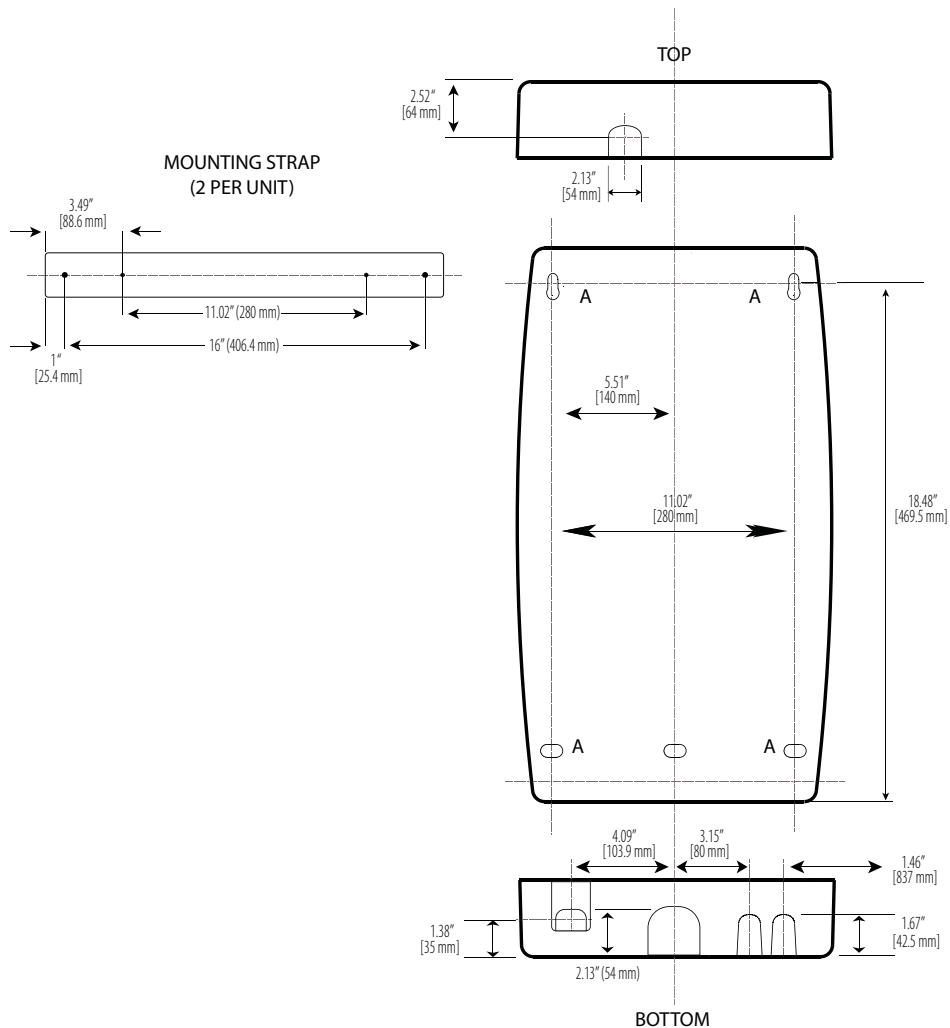

Fig. 3.c
- **Option 1:** Attach directly to a wall using the supplied screws and anchors. Use the two inner holes of the supplied mounting strap as a template for the humidifier mounting holes (marked by "A" in Figure 3.c). Once marked, the two top screws can be installed first and then the steam unit can be hung on the screws using the keyhole slots.
- **Option 2:** Attach to studs using the supplied mounting straps (Figure 3.c). The mounting straps can be used to span an open stud cavity or secured to studs through a finished wall. Secure the mounting straps to the studs using the two outer holes. Then secure the steam humidifier to the mounting straps using the two inner holes, which will align to the mounting holes in the steam unit.